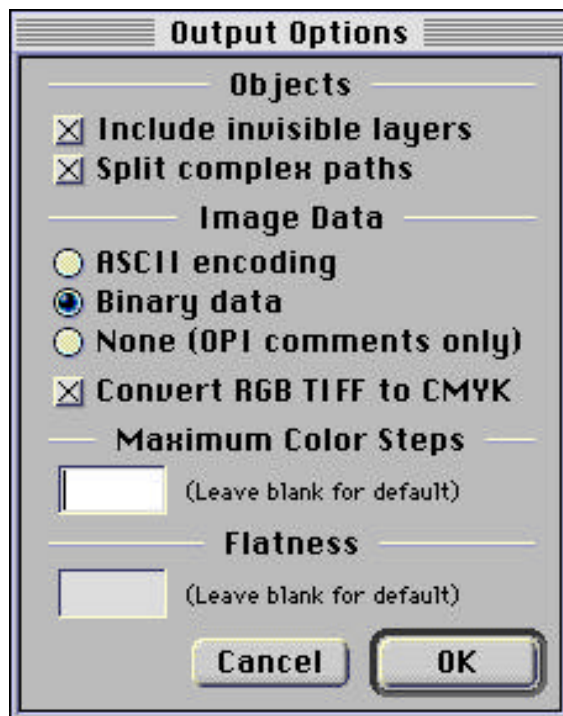

Figure 4-21 Macromedia Freehand 5.5 Output Options Window
8. **Click on the Output button in the lower left of the Print window to change the settings shown in Figure 4-21:**